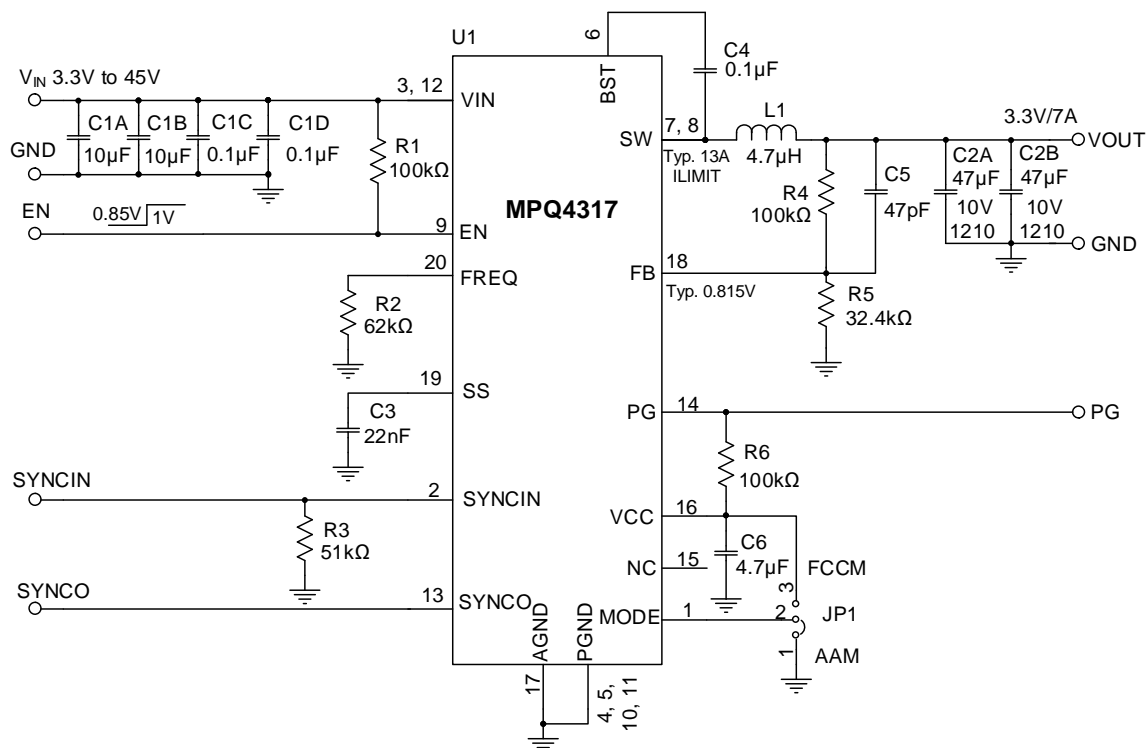

Figure 11: Typical Application Circuit ($V_{OUT} = 3.3V$, $f_{SW} = 470kHz$)
9) The recommended PCB layout is based on Figure 11 .